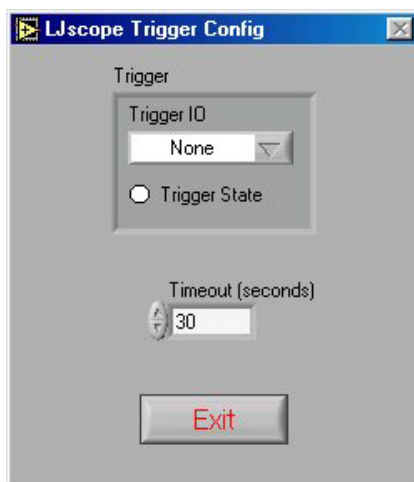

Figure 3-11. LJscope
- **Configure Trigger:** Brings up the window shown in Figure 3-11. Choose the IO line to trigger on and whether to trigger when it is high or low. Also set the timeout period so the application will continue (with an error) if the trigger is not detected.